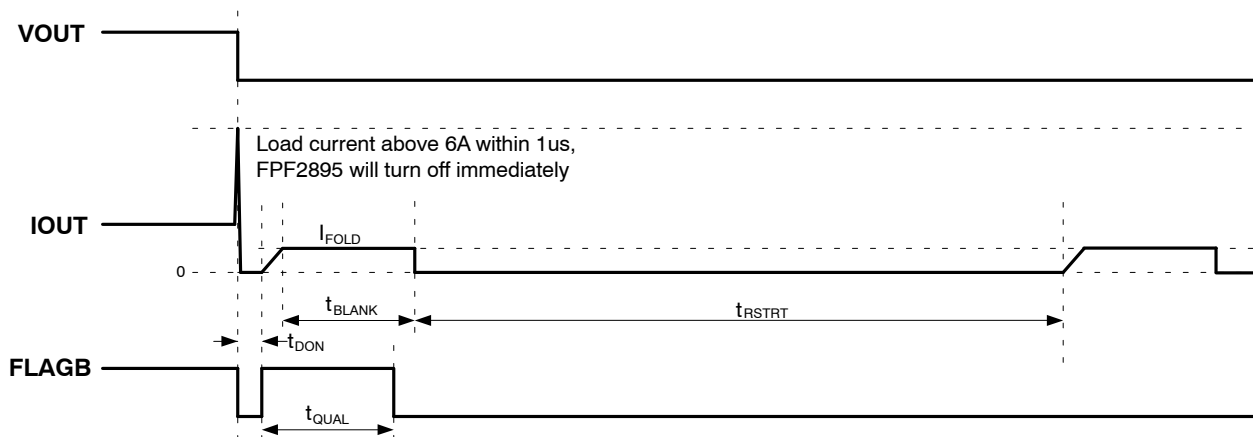

Figure 9. VOUT Hard Short to GND (OC_MODE=HIGH & FLAGB Is Pulled Up With an External VIO)
6. 6 A absolute limit current value. See Figure 9. for protection timing diagram.